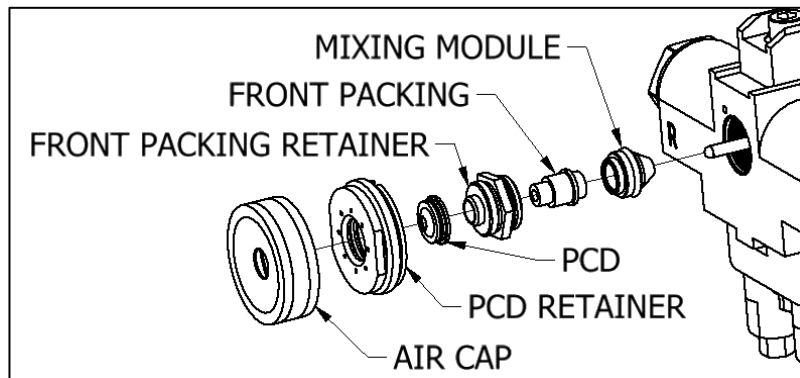
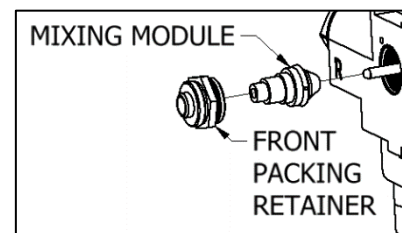

Figure 10: Spray Configuration
Figure 11: Pour Configuration
5. Push **Mixing Module** into **Gun Block** onto **Valving Rod** (See Figure 10 and Figure 11).
13. For pour applications, skip this step. For spray applications, install the **PCD** onto the **Front Packing Retainer** and screw on the **PCD Retainer** and **Air Cap** (See Figure 10)